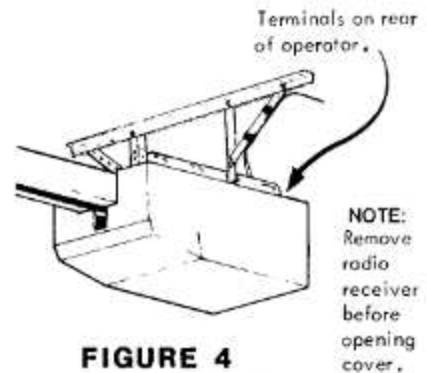

FIGURE 4
- 5** Secure hangers to operator. Provide suitable attachment of hangers to ceiling joists (See Figure 4). Open door to full extent. Use center mark on door to center power unit end of operator. Secure hangers to ceiling joists. NOTE: For optimum operation of one piece Pivotal and Jamb type doors, power unit end of operator should be mounted lower than head end. Check clearance between door and track before securing operator. Door must clear track a minimum of 2" at its closest point. Secure header bracket bolt and hangers.